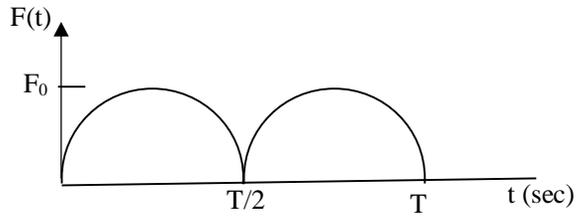

Fig.3
**Q.4 (a)** A single spring mass system has spring constant of 2500 N/m and mass of 25 kg. If it is loaded by a periodical load for which a single period is as shown in the Figure 3, derive the equation of the response using Fourier series. **07**